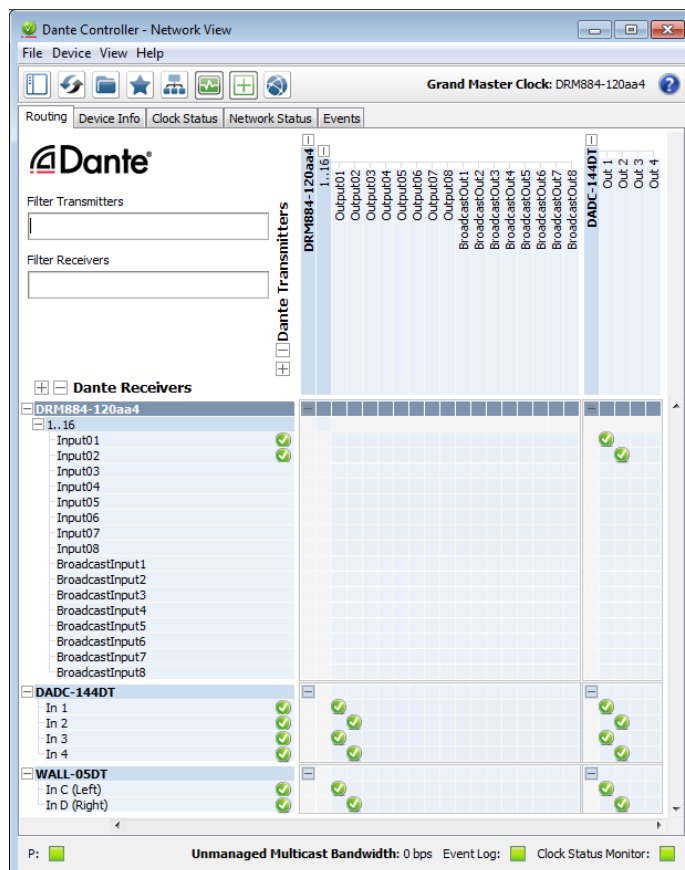

Fig. 11 Dante routing
- 1) Under “Routing” in the window “Network View”, click to open the transmitting channels of the desired device under “Dante Transmitters” and the receiving channels of the connection partner desired under “Dante Receivers” (refer to fig. 11).